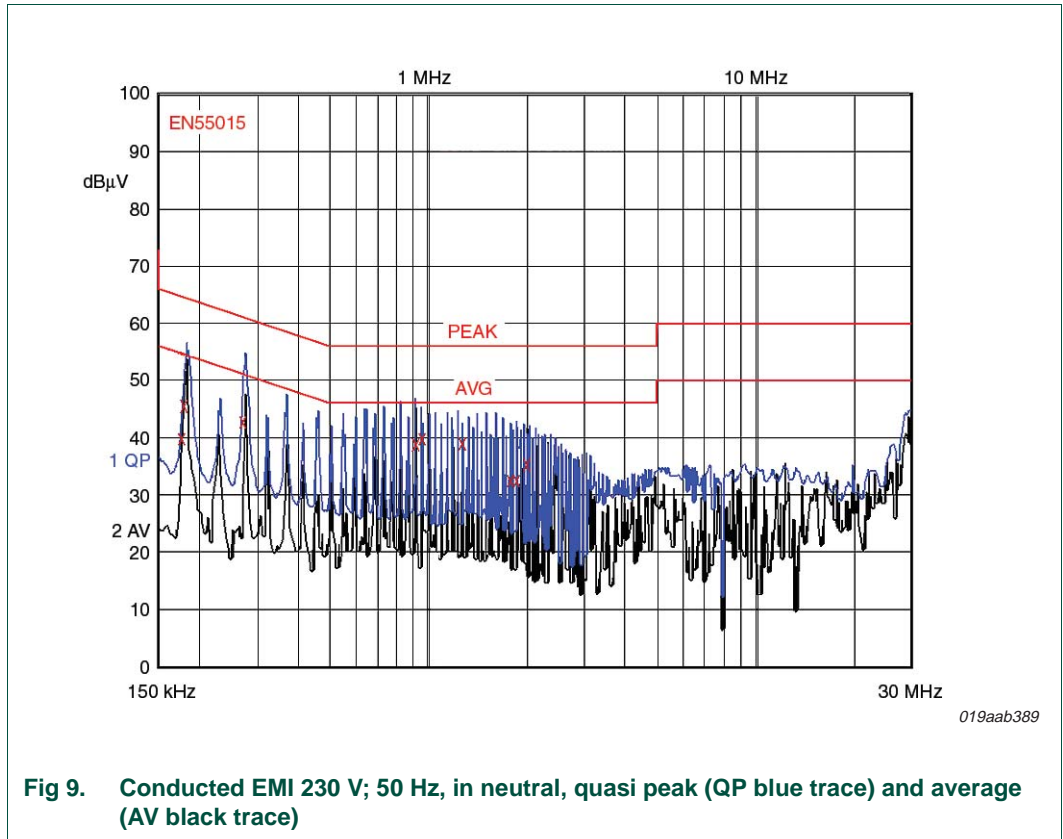

Fig 9. Conducted EMI 230 V; 50 Hz, in neutral, quasi peak (QP blue trace) and average (AV black trace)
Conducted emissions have been measured in neutral and line wires using a pre-compliance test setup, considering the limits for lighting applications, i.e. EN55015. The measurements have been performed at 230 V (AC) line voltage. The results are shown in Figure 8 and Figure 9. The emission level is below both the quasi peak and the average limits with an acceptable margin.